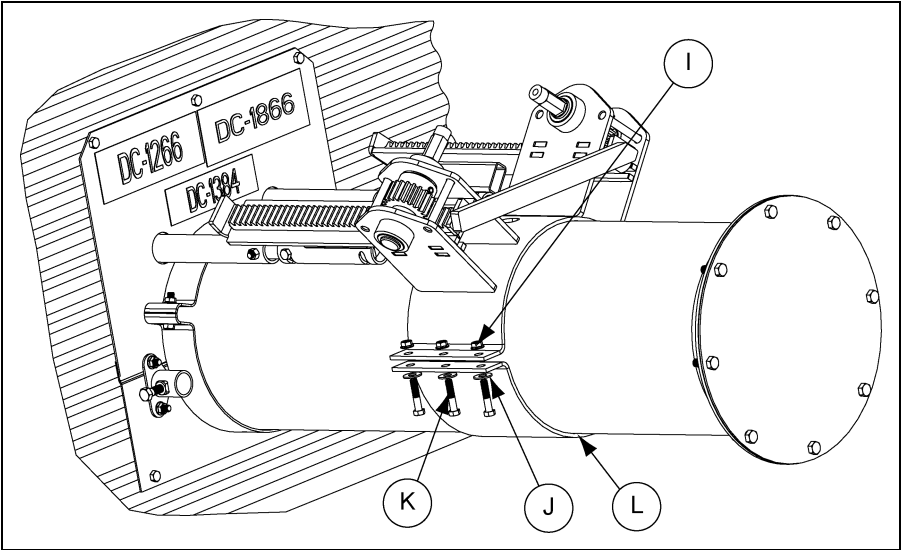

Figure 4V
5. With the rack and pinion fully extended towards the bin wall, attach the half band (L) with six (6) 5/16" x 1-3/4" hex bolts (K), flat washers (J) and serrated flange nuts (I). (See Figure 4V.)